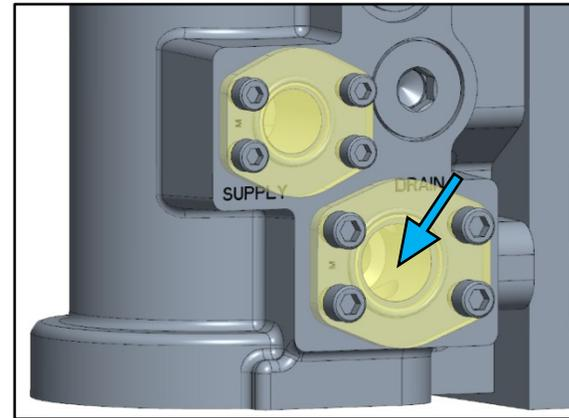

Figure 2-41. VariStroke Drain Port Location
11. Remove the port plug attached to the new servo and connect the hydraulic drain pipe flange bolts. Torque the bolts according to ISO 6162-1 (Figure 2-41).